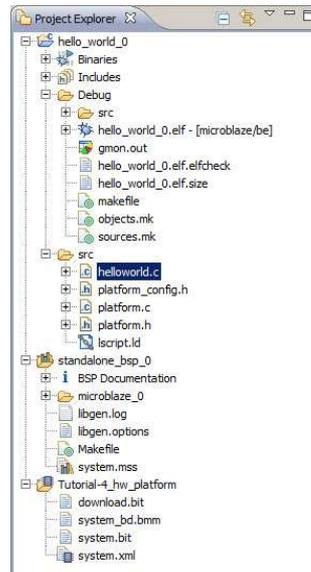

Figure 39. Create, Manage and Run Configurations (Step 19)
**Step 19:** As seen in Figure 39 a gmon.out file is under Debug.